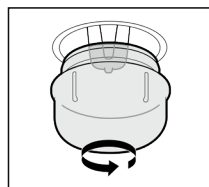

Fig. 7
- Unscrew the glass cover in the anti-clockwise direction according to Fig. 7 and replace the bulb with a bulb of the same type and parameters.